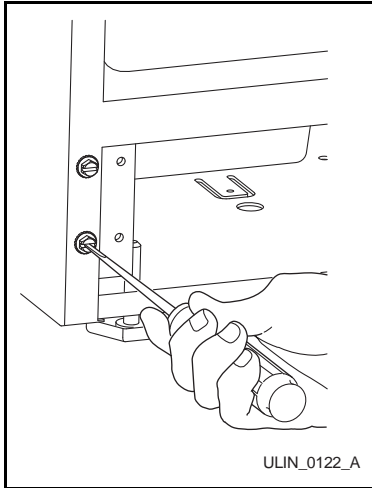

Figure 12
4. Remove bottom hinge from cabinet (two screws) (**Figure 12**).